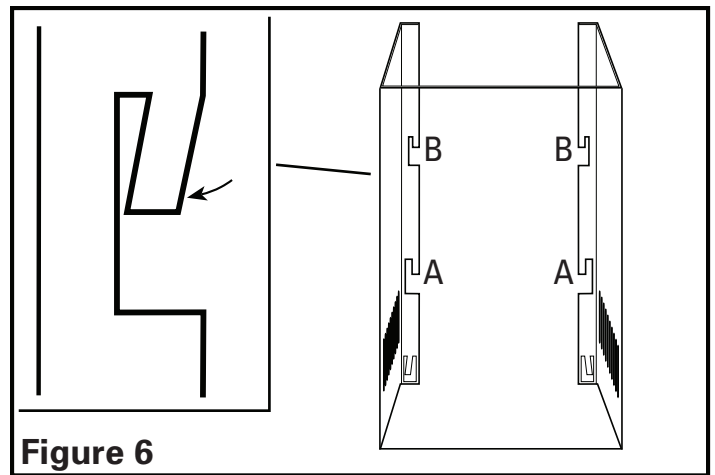

Figure 6
3. Press in appropriate tabs on lower chimney section (section with vent holes). If using the upper chimney, press in tabs in middle of the chimney (Position A), otherwise press in tabs at top of the chimney (Position B). Press in tabs at the bottom of the chimney so there is approximately 1/4" of clearance (**Figure 6**).